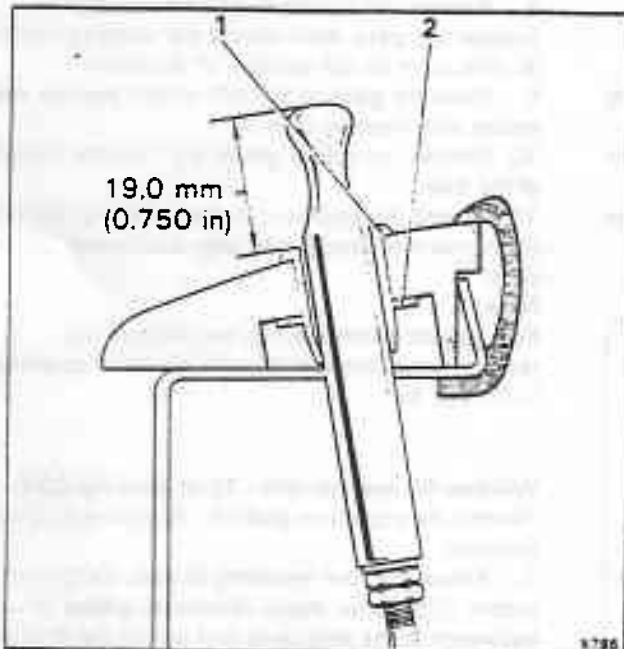

Fig. S3-4 Correct fitting of guide bush and Starlock washer
3. Check that the sill lock control button slides smoothly through the guide bush. If any vibration is detected in the guide bush area, check that the guide bush is seated correctly in the waist rail finisher and that it is secured by a Starlock washer (see fig. S3-4). If necessary, renew the guide bush and Starlock washer.